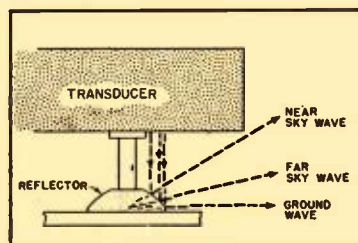
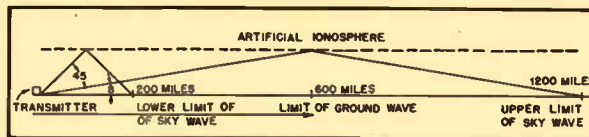
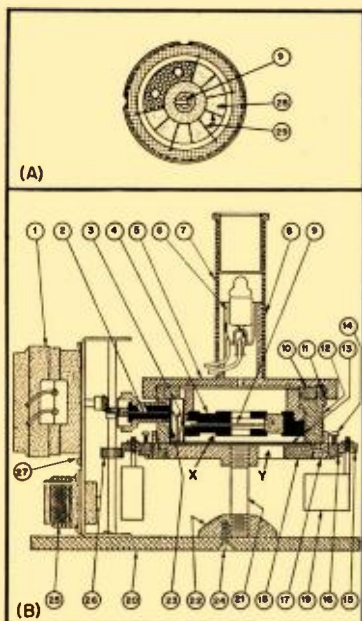

Fig. 10. Focusing effect of reflector cone.
Fig. 9. Diagram showing propagation of ground and sky waves.
Fig. 8. (A) Plan view of crystal assembly in transducers, and (B) cross section of transmitting transducer.
Referring again to (B) in Fig. 8, the ultrasonic waves caused by the vibration of the diaphragm pass through the doughnut-shaped opening (Y) in the clamping plate (18) down to the parabolic reflector cone (2). The choice of this type of a reflecting surface is dictated by several important factors. First, the propagation requirements of the transducers for ground waves and sky waves; and second, the fact that the absorption of ultrasonic waves in air for sky waves is greater than that for ground waves due to the longer paths taken by the former. Typical ground- and sky-wave propagation is shown in Fig. 9. The effect of the reflector cone is shown in Fig. 10. The reflector has the profile of a parabola since this curve converts
"medium", that is, "A" with "B", discrimination is likely to be uncertain, yielding statements of preference not acceptably reliable. Figure 7 shows an aggravation of this difficulty, brought about by reducing intensity-level to 60 db. Here the three bands become more easily confused, although discrimination of "wide" (A) from "narrow" (C) might still be accomplished with better than chance success. Figure 8 presents a pic-
In the experiments conducted by Olson, intensity-level was maintained at 75 db throughout, and but two frequency-range conditions were compared—unrestricted bandwidth, and a nominal 5,000 cps low-pass. Figure 9 shows the physical effect of the frequency-range controls imposed in this experiment, while Fig. 10 represents the subjective effect of these controls. Observe that at the high frequency end this curve compares favorably with that for Eisenberg and Chinn's "narrow range" at 70 db (Fig. 6, curve C), while the curve representing the effect of Olson's unrestricted condition closely resembles Eisenberg and Chinn's "wide-range" curve at "high volume level" (Fig. 2, 70 db). From these observations we might infer that as far as the high-frequency end of the range is concerned, there was little difference between the discrimination task presented Olson's listeners and that confronting Eisenberg and Chinn's. Also, we may predict that Olson's two passbands should be easily discriminable on the basis of their subjective differences, and therefore give rise to highly reliable estimates of preference for one or the other.
Fig. 8. Subjective effect of Eisenberg and Chinn's "wide," "medium" and "narrow tonal range" filters at 50-db intensity-level ("low volume level"). Broken lines indicate cutoff effect of filters.
Fig. 9. Approximate response characteristic of acoustical filter system used in Olson's study of preference for frequency range, showing acoustical cutoff of "5000-cps" low-pass filter.
Fig. 10. Subjective effect of Olson's "wide" and "narrow frequency range" filters at 75-db intensity-level. Broken line shows cutoff effect due to filter. Note similarity between this low-pass cutoff effect and that of Eisenberg and Chinn's "narrow tonal range" at "high volume level" (70-db curve, Fig. 5).